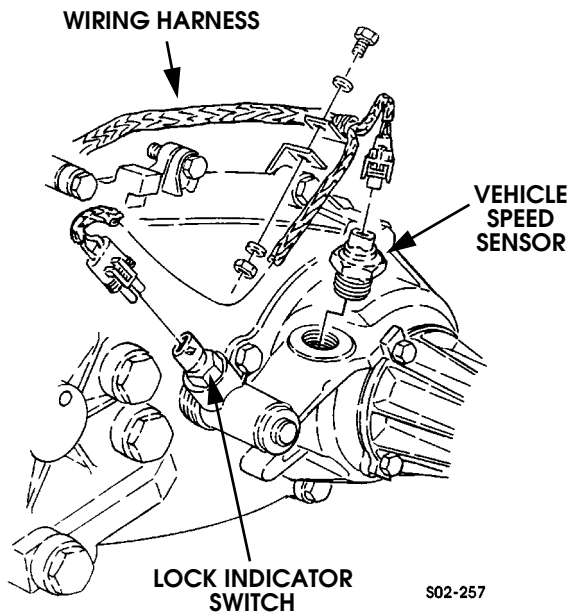

Figure 5-74: Speed Sensor and Lock Indicator Switch Location
1. Disconnect harness connector from vehicle speed sensor, lock indicator switch, and/or range indicator switch (Figures 5-74 and 5-75).
2. Remove switch and/or sensor from transfer case (Figures 5-74 and 5-75).